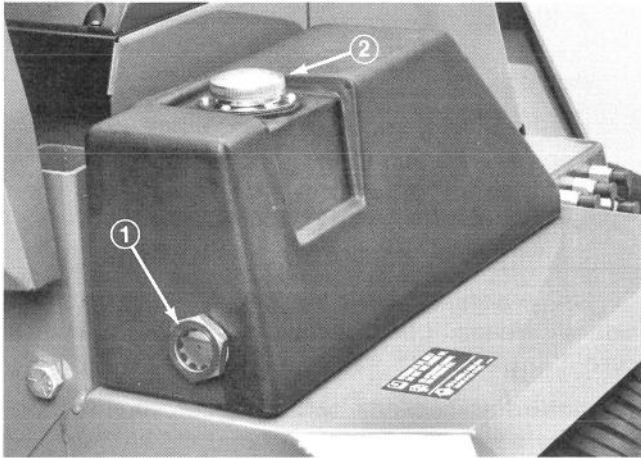

Figure 43
1. Visually check hydraulic oil level daily through sight glass (Fig. 43). With machine on a level surface, oil should be in the middle of the sight glass when warm and slightly below level when cold.
2. If oil needs to be added, clean area thoroughly around the fill cap before removing cap (Fig. 43). Add oil until proper level is indicated in sight glass.
3. With machine on level surface, fill reservoir with hydraulic oil until oil level is midway up in sight glass (Fig. 43).